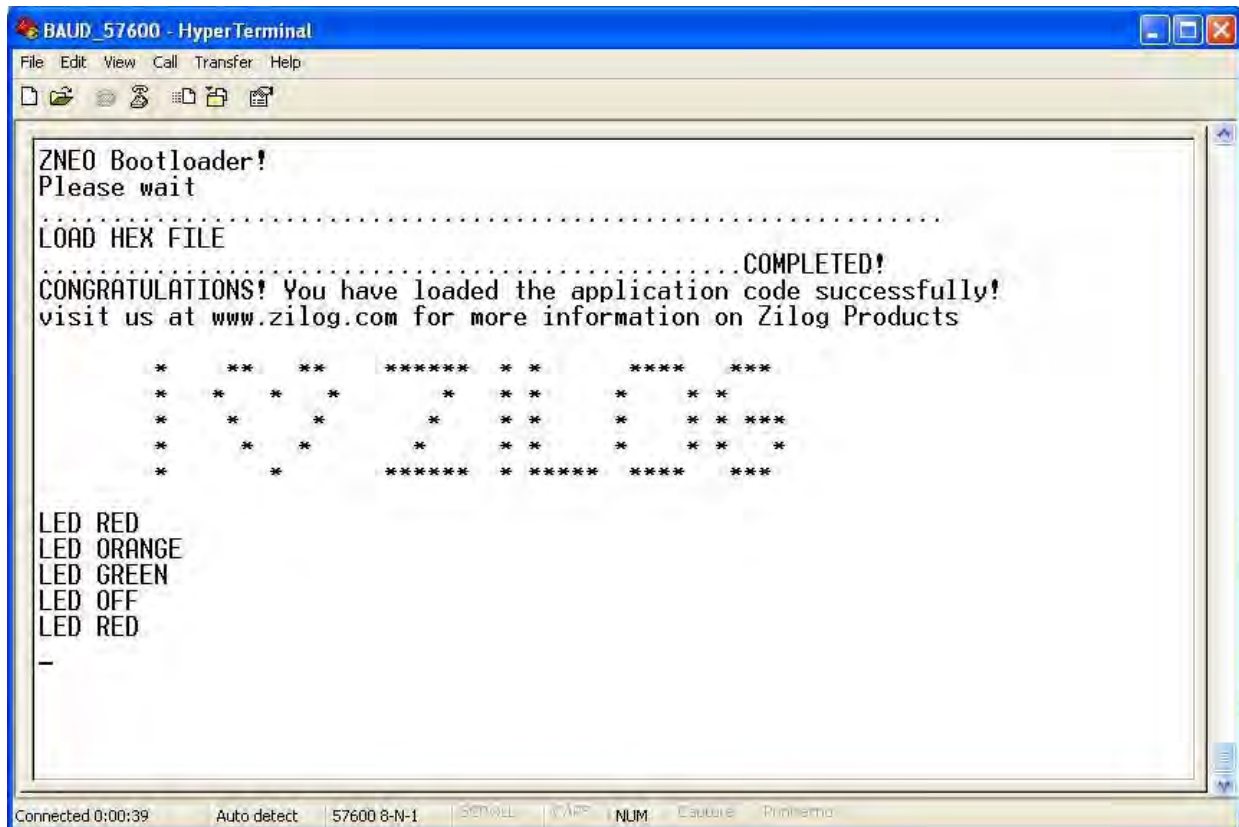

Figure 5. HyperTerminal Displays the Loaded Application Code
When the boot loader code starts, it displays ZNEO Boot Loader in the HyperTerminal window, followed by a sequence of tasks, as noted below and illustrated in Figure 5.
7. HyperTerminal displays COMPLETED!, as shown in Figure 5, to indicate that the application code hex file has successfully downloaded to the MCU.